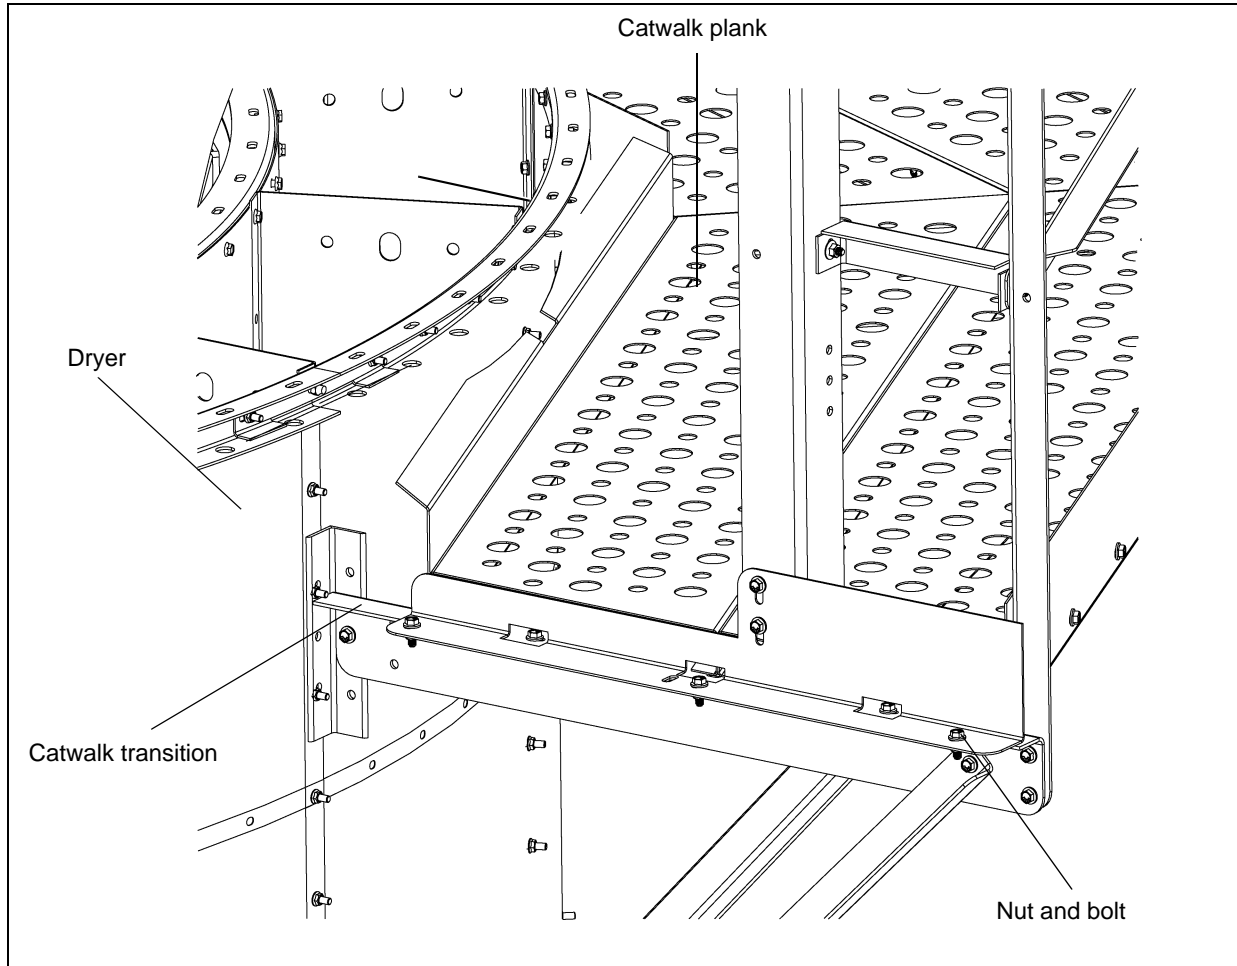

Figure 8Y
13. There are two (2) planks between catwalk brace. The longer plank with the kick plate goes farther away from the dryer wall with the kick plate on the outside and the shorter plank goes closest to the dryer wall with the kick plate to the inside (to prevent stepping or slipping between the plank and the dryer). (See Figure 8Y.)